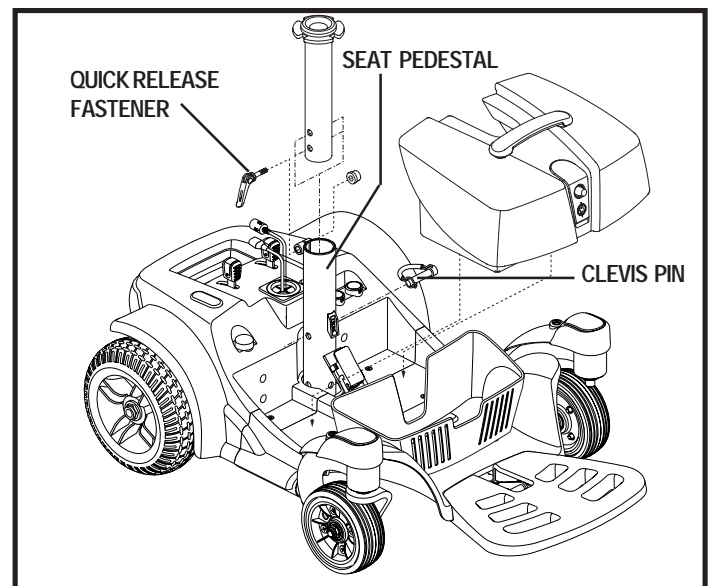
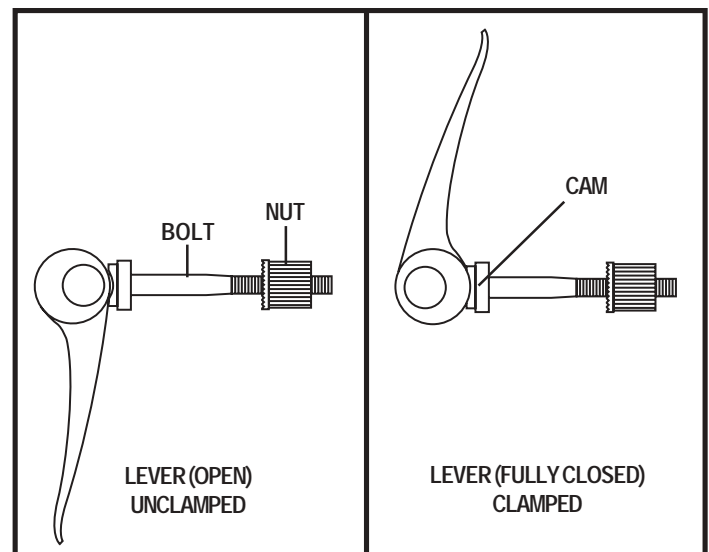

Figure 16. Seat Height Adjustment
Figure 17. Quick Release Fastener Operation
5. Loosen the quick release fastener. See figure 16.
9. Tighten the quick release fastener. See figure 17.
The quick release fastener removes excess play in the seat pedestal. See figure 16. The quick release fastener consists of a bolt, a lever and a nut. See figure 17. The lever has a cam on the end that allows it to clamp into place. The quick release fastener has two states: clamped and unclamped. When the lever is open, the quick release fastener is unclamped. When the lever is closed, the quick release fastener is clamped.